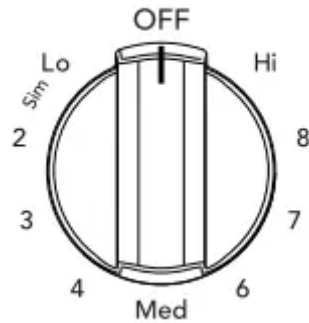

Figure 5: Surface control knob
- 2. Push in and turn the surface control knob in either direction (Figure 5) to the desired setting (refer to the “Suggested radiant surface element settings” table, Table 1).
Start most cooking operations on a higher setting and then turn to a lower setting to finish cooking. The surface control knobs do not have to be set exactly on a particular spot. Use the graphics provided as a guide and adjust the control knob as needed (see Figure 5). A glowing red surface heating area extending beyond the bottom edge of the cookware indicates the cookware is too small for the surface heating area.